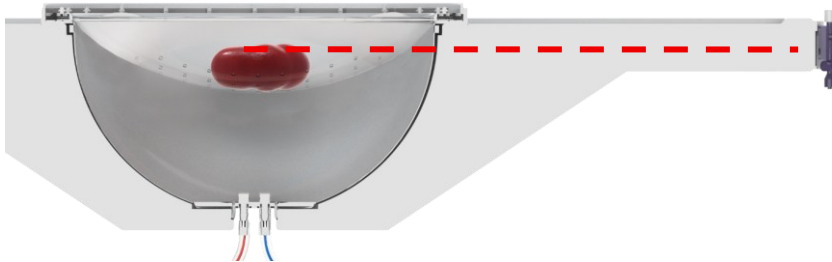

Figure 28: Height of the kidney relative to the pressure sensor
- Note that the kidney is supported by the net and the fluid in the reservoir. To ensure an accurate pressure measurement, align the height of the kidney to the pressure sensor as shown in Figure 28. The tip of the cannula should be on the same height as the center of the pressure sensor.